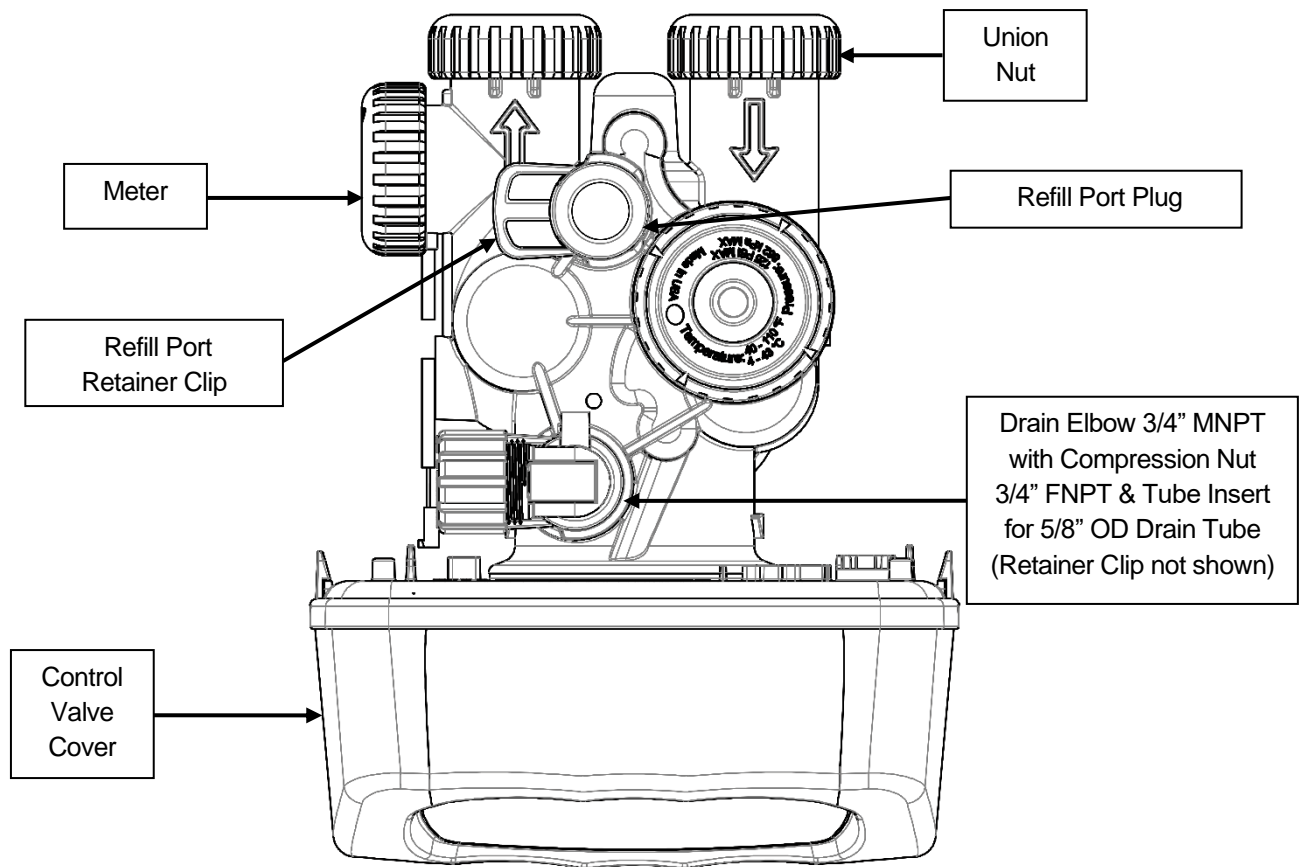

FIGURE 6: Top View of Control Valve
- STEP 8:**       **Apply thread tape to DLFC Assembly**. Remove drain line flow control (DLFC) retainer clip (Figure 6, Page 7) and remove the DLFC assembly from the valve body, (Figure 6, Page 7). Apply thread tape to threads. Slide drain fitting compression nut onto provided drain tubing and place the tube insert inside the end of the tubing. Insert tubing end with insert into drain elbow and tighten the compression nut onto the thread taped elbow. Reinsert DLFC assembly into the valve body, making certain it is **FULLY** inserted before replacing the retaining clip.
- STEP 9:**       **Install drain line**. Use the provided ½" I.D. polyethylene tubing (**DO NOT USE FLEXIBLE VINYL TUBING!**) to run drain line from control valve DLFC fitting (Figure 6, Page 7) to floor drain or sump pit capable of handling the backwash rate of the filter (refer to specifications and flow rate on page 17) or discard the compression fitting and use the ¾" NPT fitting to connect a rigid pipe drain line . If backwash flow rate is greater than 7.5 gpm, use existing NPT connector with rigid drain line. There must be an air gap at the end of the drain line to prevent siphoning of wastewater. Length of drain line should be 15' or less. **AVOID OVERHEAD DRAINS.**
- 12) Reattach Drain Line to Control Valve (Figure 6, Page 7).